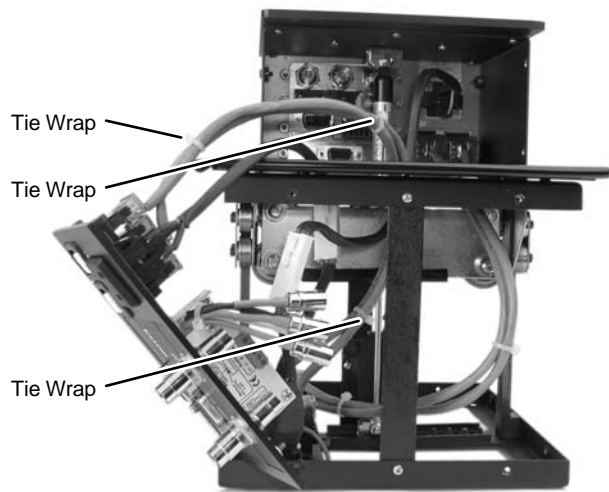

Figure 2-4 — Bundling interior cables
1. Use tie wraps to bundle the CAT 6 and telephone cables (figure 2-4). Use the impressions on the remaining CAT 6 cable of the tie wraps that you cut in *Replacing the connectors*, step 2 on page 2-5 as a guide for placing the tie wraps.